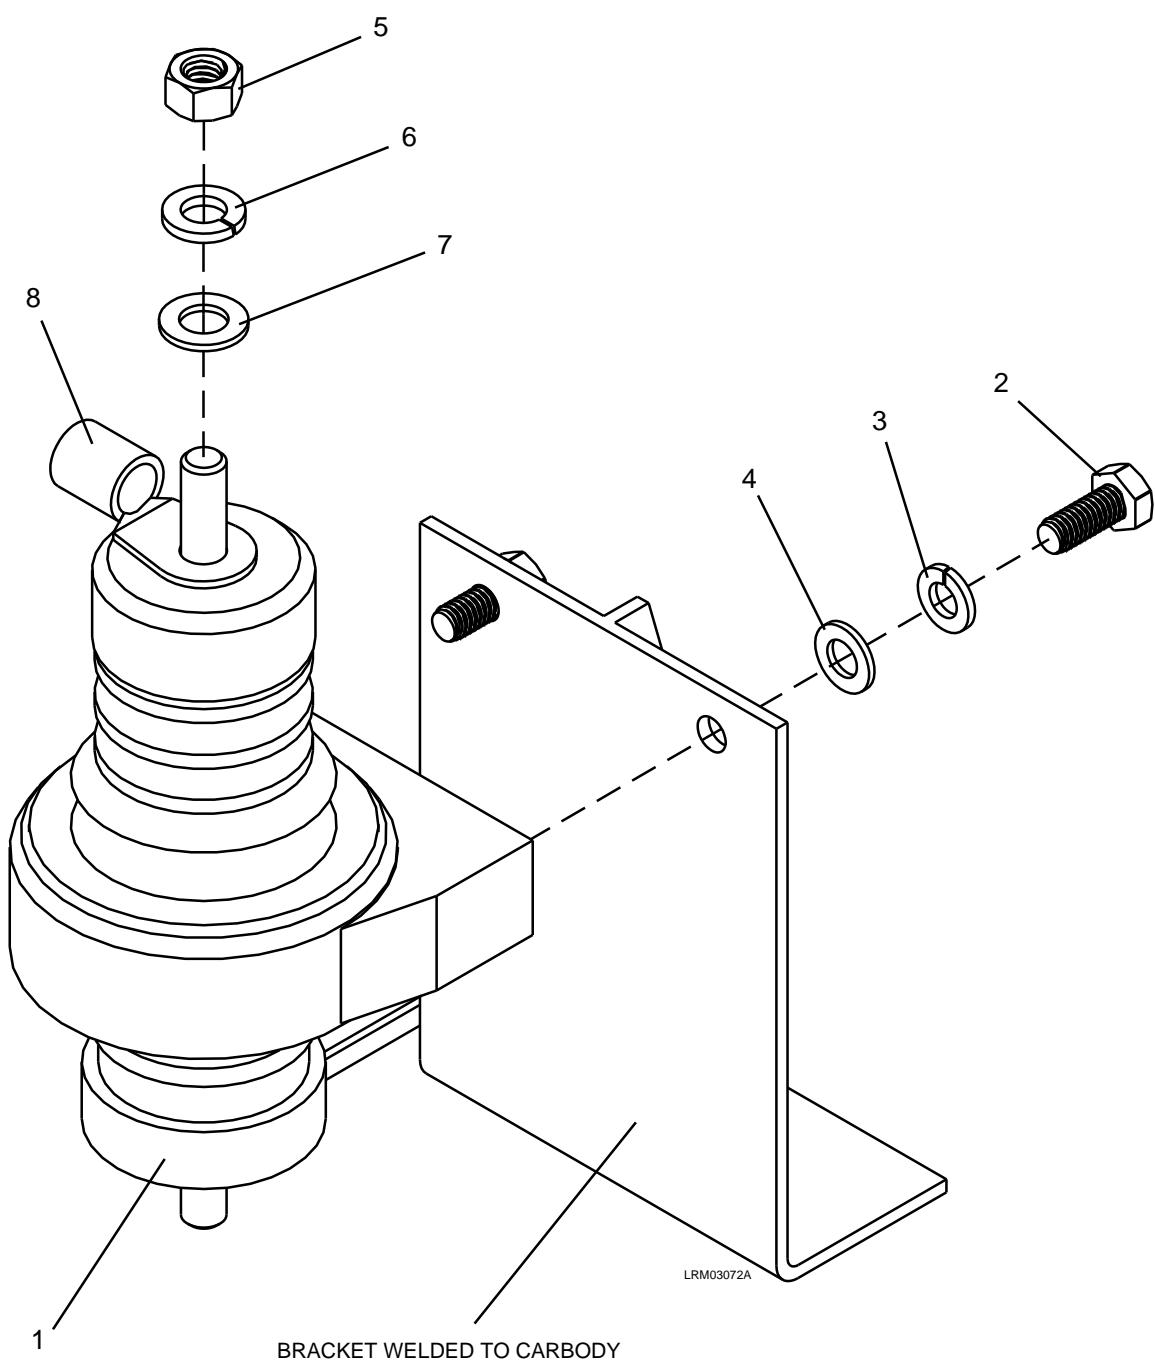

Figure 7-118: Lightning Arrestor
1. Disconnect the electrical connections (8) from the Lightning Arrestor (1) by removing the two 3/8-16 nuts (5), 3/8 lock washers (6), and 3/8 plain washers (7).
2. Remove the two 5/16 x 5/8 bolts (2), 5/16 lock washers (3), and 5/16 plain washers (4). See Figure 7-118.
3. Carefully remove the Lightning Arrestor (1).